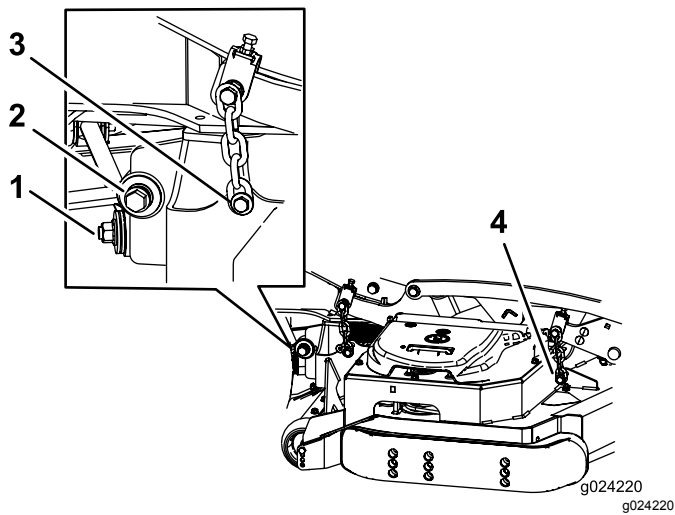

Figure 105
7. Remove and retain the hardware on both sides of the deck as shown in Figure 105.